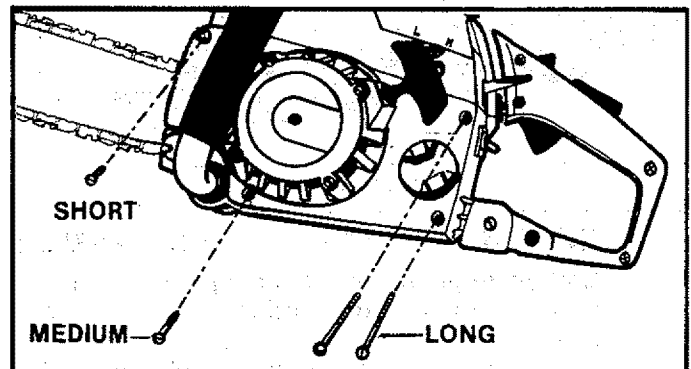

Figure 48
1. Remove the four screws on the side of the fan housing. Figure 48.